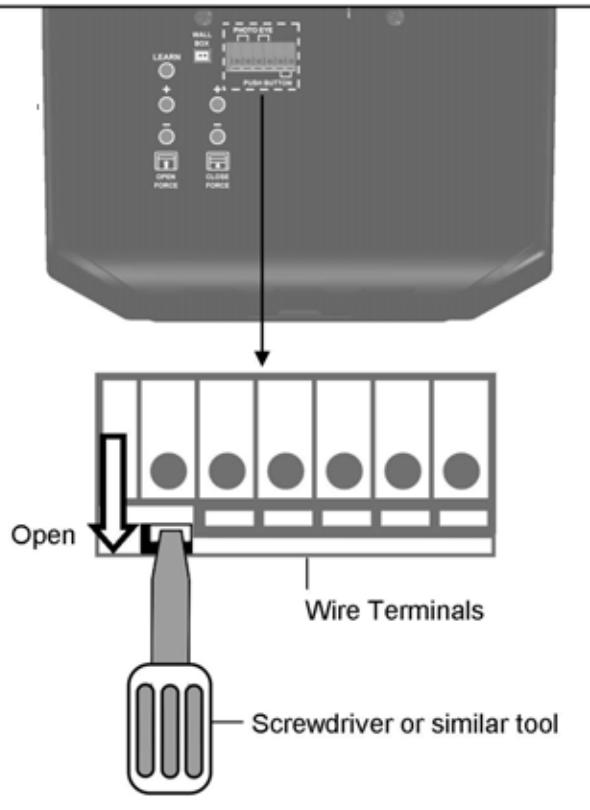

Fig. 1
2. To connect a wire to an assigned terminal, use a small "flat head" screwdriver to push in the orange tab on the Wire Terminal as shown in Fig.1.